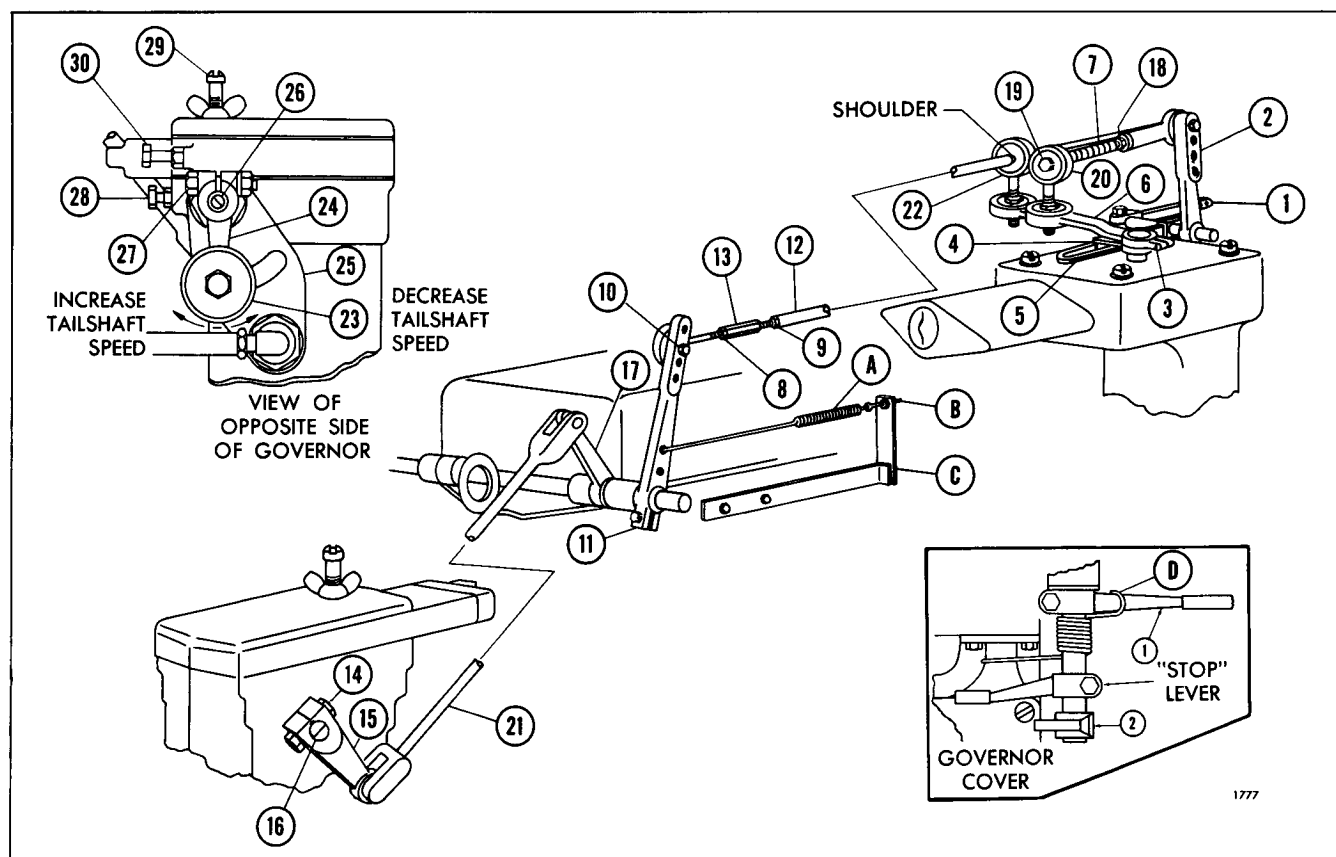

Fig. 1 - Hydraulic Output Shaft Governor and Linkage (With Keyed Levers)
The following tune-up procedure applies to the Series 71 engine units incorporating a mechanical limiting speed governor and a hydraulic output shaft governor working as a single unit, through connecting linkage, to provide the proper output shaft speed, see Fig. 1.
1. Place the remote throttle hand lever (1), Fig. 1, in the "FULL SPEED" position.
2. Force the control lever (6) and throttle accelerator lever (4) into the IDLE notch of the governor cam (5). The repulsing spring (7) should be fully compressed at the time the throttle accelerator lever reaches the idle notch of the governor cam (5). If this spring is not fully compressed, loosen clamp screw (3) in the end of the governor control lever (6) and move control lever until spring is compressed. Should repulsing spring become fully compressed prior to the throttle accelerator lever reaching the IDLE notch of the governor cam, loosen lock bolt (3) in the governor control lever (6) and manually move the throttle accelerator lever (4) into the IDLE notch.
3. Hold the throttle accelerator lever (4) halfway between the IDLE and FULL FUEL position, and loosening lock nuts (8) and (9), adjust the turnbuckle (13) on the throttle rod (12) so that the rear cross shaft lever (11) is vertical.
4. Loosen the lock bolt (14) in the output shaft governor control lever (15) and remove lever from terminal shaft (16). With the cross shaft lever (11), force the throttle accelerator lever (4) into the IDLE position and reinstall and lock the output shaft governor control lever (15) onto the terminal shaft (16).